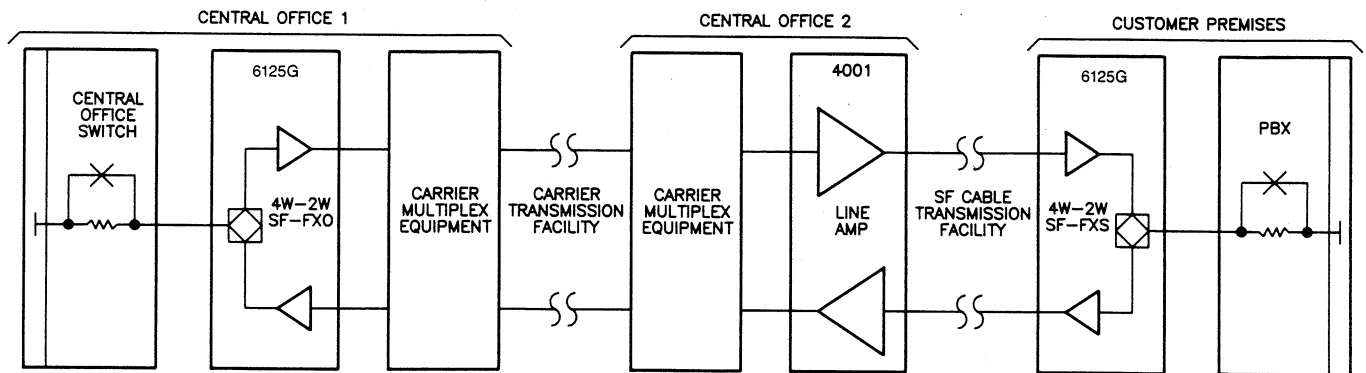

figure 2. Typical foreign-exchange (FX) application of 6125G
- 2.01 The 6125G RA Series 4Wire-to-2Wire SF-to-FXS/FXO/ARD Terminal Repeater module is used in FX and OPS applications where a 4wire SF signaling facility must interface a 2wire metallic FXS or FXO signaling link. The module is also used in applications where a 4wire SF signaling facility must interface a 2wire metallic ARD signaling link. In FXS applications, the 2wire link (metallic loop) is typically terminated in station equipment or a PBX trunk circuit. In FXO applications, the 2wire link is typically terminated in a PBX line circuit or a CO switch. In ARD applications, the 2wire link is typically terminated in a station telephone set. Typical FXO and FXS applications of the 6125G are shown in figures 2 and 3. In these and other 6125G applications, coordination between field-installation personnel and central-test-center (CTC) personnel is often difficult. Typically, one person must wait for the other person to return or to complete another task before the circuit can be aligned. This waiting time is unproductive and therefore costly. The 6125G allows an installer to finish the physical installation, leave the site, and move on to another installation site without the involvement of CTC personnel. The CTC personnel can then align the circuit at their convenience.